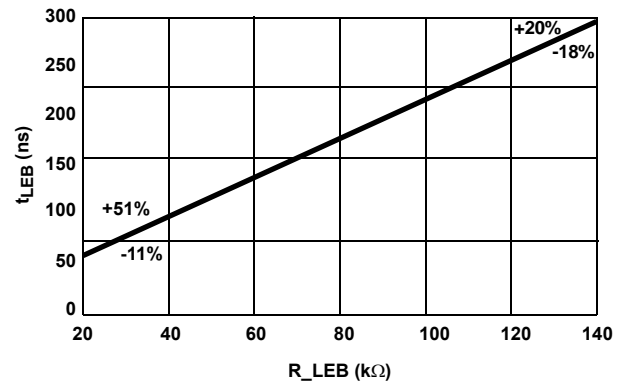

FIGURE 8. R_LEB vs t_LEB
- The blanking time can be estimated with Equation 9, whose relationship can be seen in Figure 8. The percentages in the figure are the tolerances at the two endpoints of the curve.